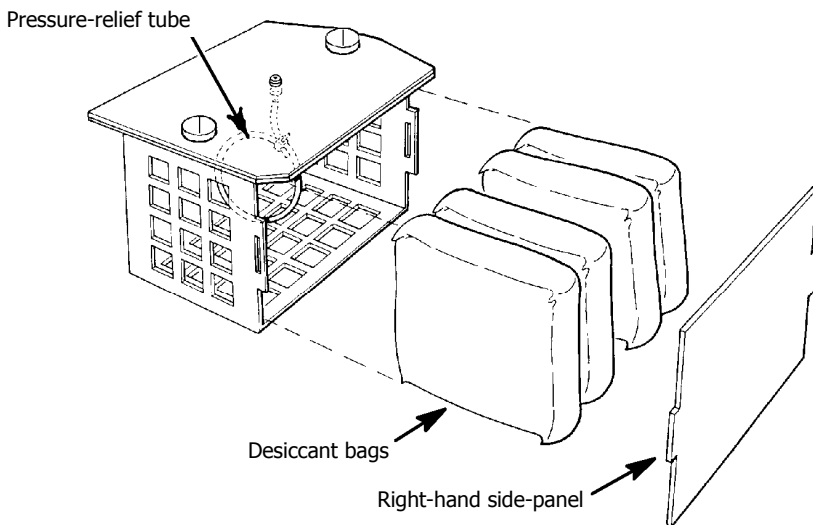

Figure 7 Replacing the desiccant
Five surfaces of the desiccant box are formed from a single sheet of metal. The sixth surface (the right-hand side-panel) is a separate piece (Figure 7).
3. Remove the old desiccant bags and discard them. Take care not to damage the pressure-relief tube that lies between the middle two bags (Figure 7).